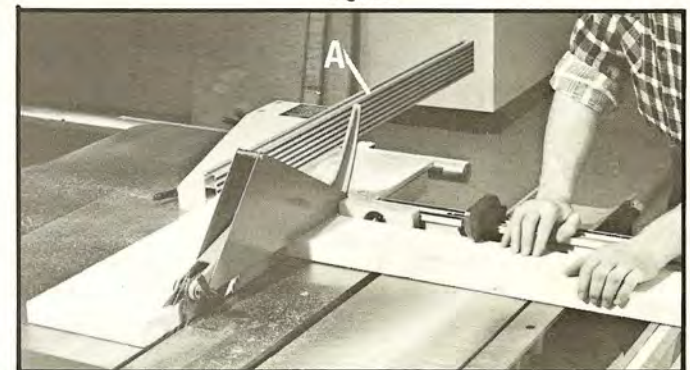

Fig. 44
The rip fence (A) can also be used as a cut-off gage when cross-cutting a number of pieces to the same length, as shown in Fig. 44. It is very important that the fence (A) be positioned in front of the saw blade, as shown.